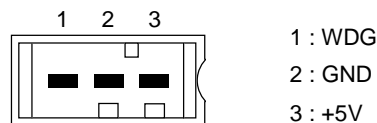

Figure 3 Pin connections of SCN-x
- ten connectors (SCN-1 to SCN-10) for connecting non-redundant I/O backplanes (10314/1/1) (see Figure 3),
Figure 3 below shows the pin connections of the SCN-x connectors, which are used to connect non-redundant I/O backplanes.